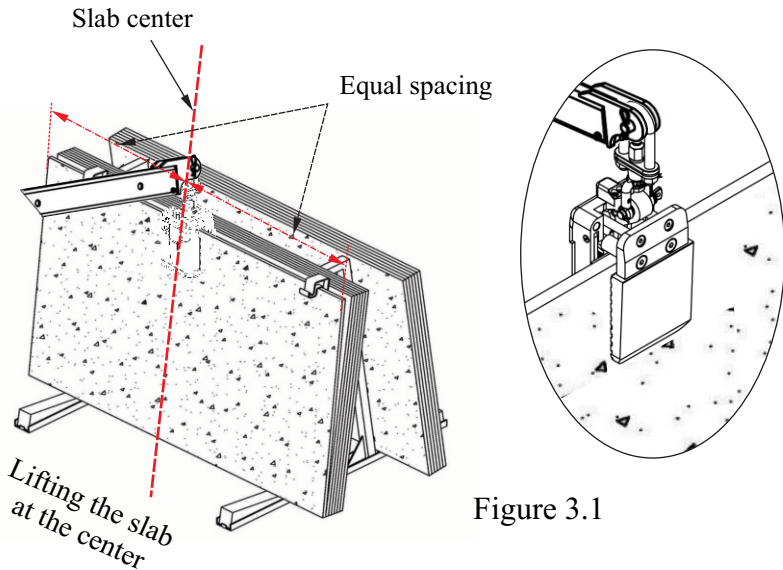

Figure 3.1
- Lower the device slowly so that the stone slab is perpendicular and at the center of two clamp jaws (Figure 3.1).